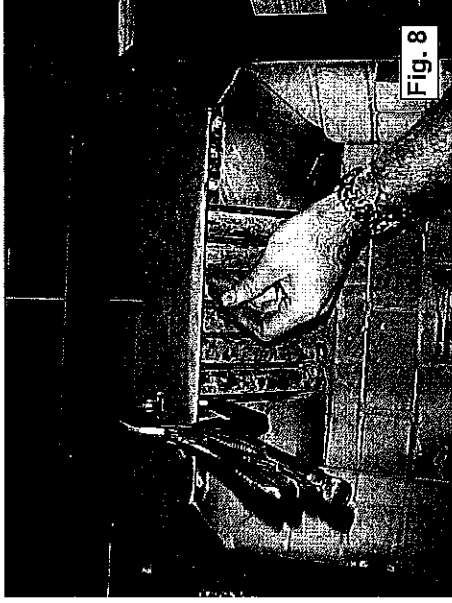

Fig. 8
- 7) Pull the scraper plate up towards the top of the heat exchanger and insert the scraper rod into the existing hole. If the scraper plate doesn't stay put when you let go, use vice grips to clamp it in place (see Fig 8).